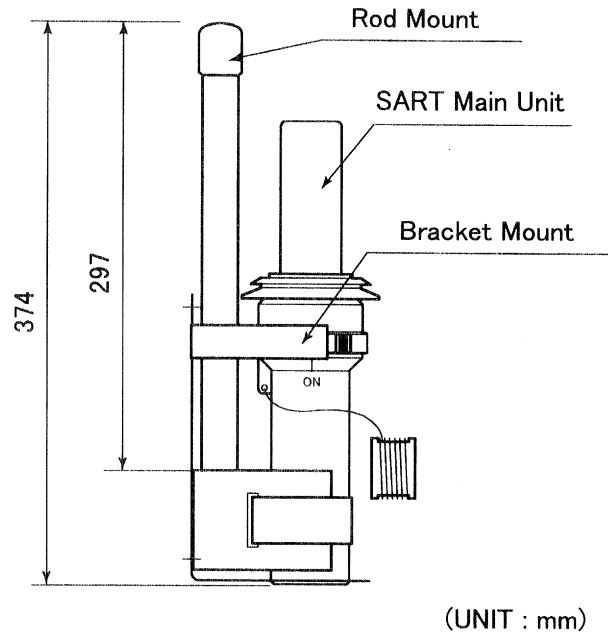

Fig. 3.7 Example of SART Storage
- (3) An example of proper storage is shown in Fig. 3.7.